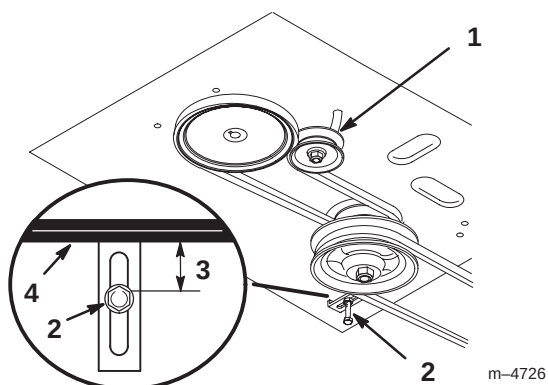

Figure 46
5. Install new belt around engine and drive pulleys (Fig. 46).
6. Slide idler pulley in engine frame to tension traction belt (Fig. 46).
8. Check the belt guides under the engine frame for proper adjustment (Fig. 46). The distance between the belt guide and mower belt should be 1-1/4 in. (32mm) when mower belt is engaged. Adjust as necessary. The disengaged belt should not drag or fall off pulley when guides are properly adjusted.
10. Check the belt guide under the engine frame for proper adjustment (Fig. 46). The distance between the belt guide and mower belt should be 1-1/4 in. (32 mm) when mower belt is engaged. Adjust as necessary. The disengaged belt should not drag or fall off pulley when guides are properly adjusted.